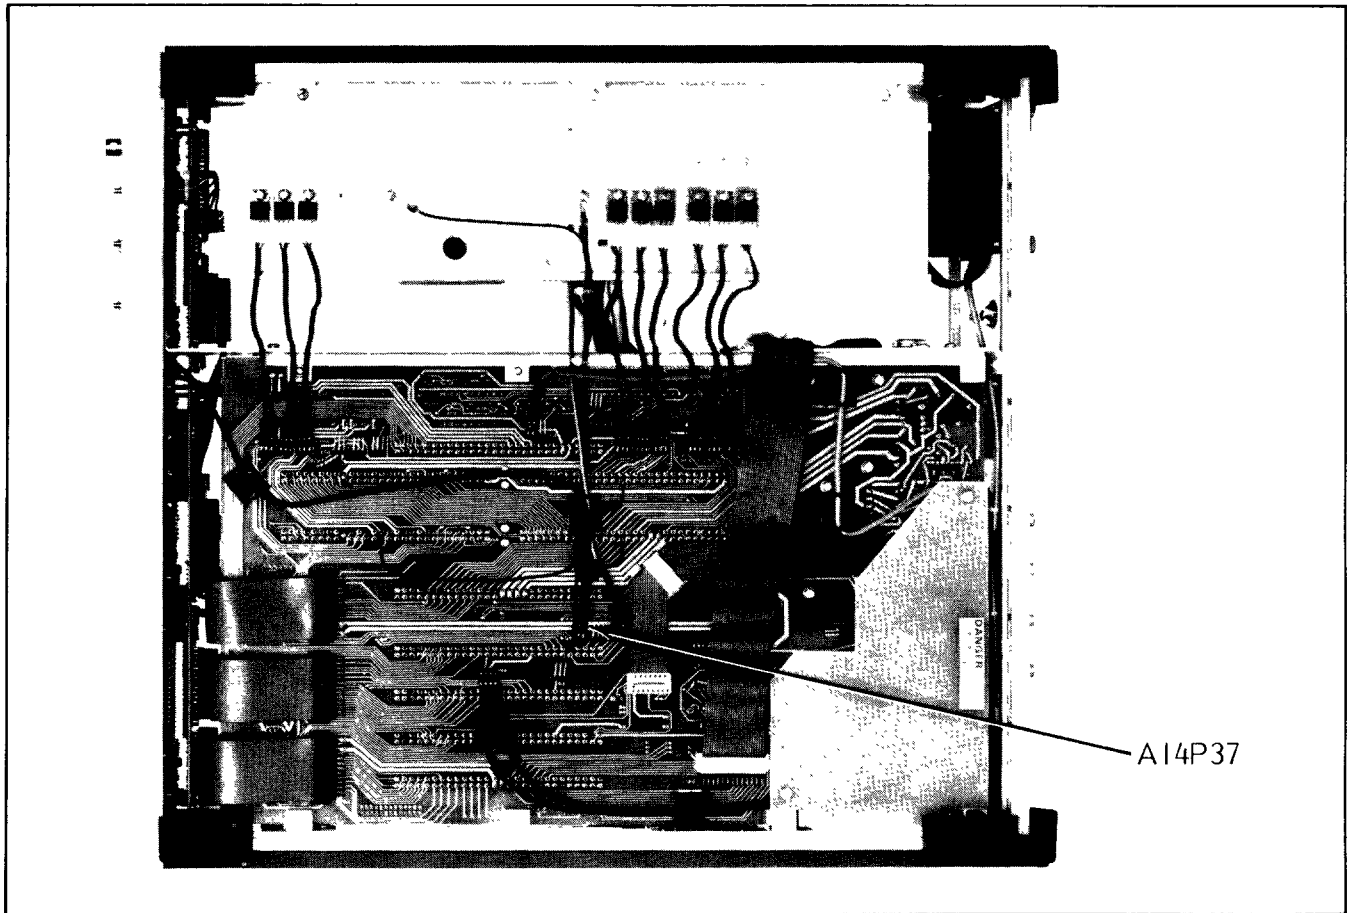

Figure 7-2. 6600 Series Programmable Sweep Generator, Bottom View
4. Disconnect the cable connector from A14P37 (Figure 7-2).